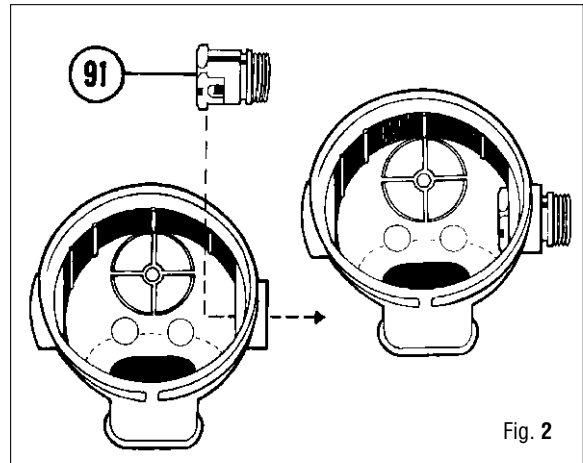

Fig. 2
2. From the inside of the case 32, insert the poppet housing 91 through the hole in the side of the case. Align the flat edge of the poppet housing with the flat molding of the case so that the hole in the side of the poppet housing is facing the mouthpiece tube. Then press the poppet housing into place. (See Fig. 2).